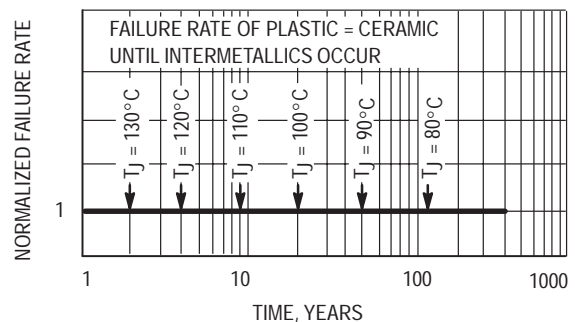

Figure 43. Failure Rate versus Time Junction Temperature
4 is graphically illustrated in Figure 43 which shows that the reliability for plastic and ceramic devices is the same until elevated junction temperatures induce intermetallic failures in plastic devices. Early and mid-life failure rates of plastic devices are not effected by this intermetallic mechanism.
device in the system should be evaluated for maximum junction temperature. Knowing the maximum junction temperature, refer to 4 or Equation (1) on page 41 to determine the continuous operating time required to 0.1% bond failures due to intermetallic formation. At this time, system reliability departs from the desired value as indicated in Figure 43.